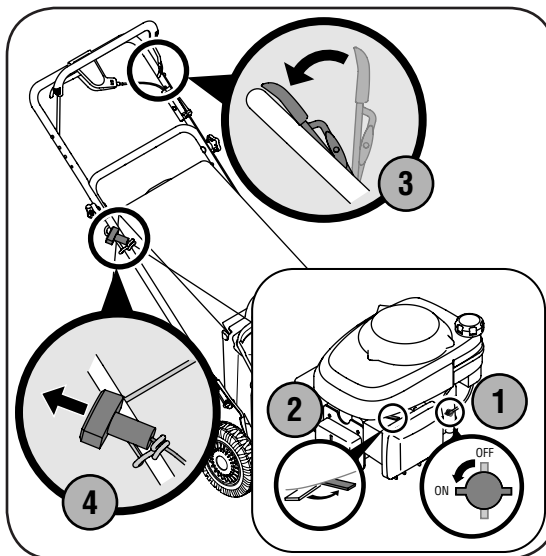

Figure 4-2: The steps involved in starting the mower.
1. Place the fuel valve lever found on the left side of the engine into the ON position, Figure 4-2.
2. Move the choke lever all the way backward into the choke position, Figure 4-2.
3. Standing behind the mower, squeeze the blade control against upper handle, Figure 4-2. The choke will now begin to slowly return to the off choke position after activating the blade control. Therefore, quickly move onto step four below. Refer to the engine manual for further details.
4. Holding these two handles together firmly, grasp recoil starter handle and pull rope out with a rapid, continuous, full arm stroke, Figure 4-2. Keeping a firm grip on the starter handle, let the rope rewind slowly. Repeat until engine cranks. Let the rope rewind each time slowly.